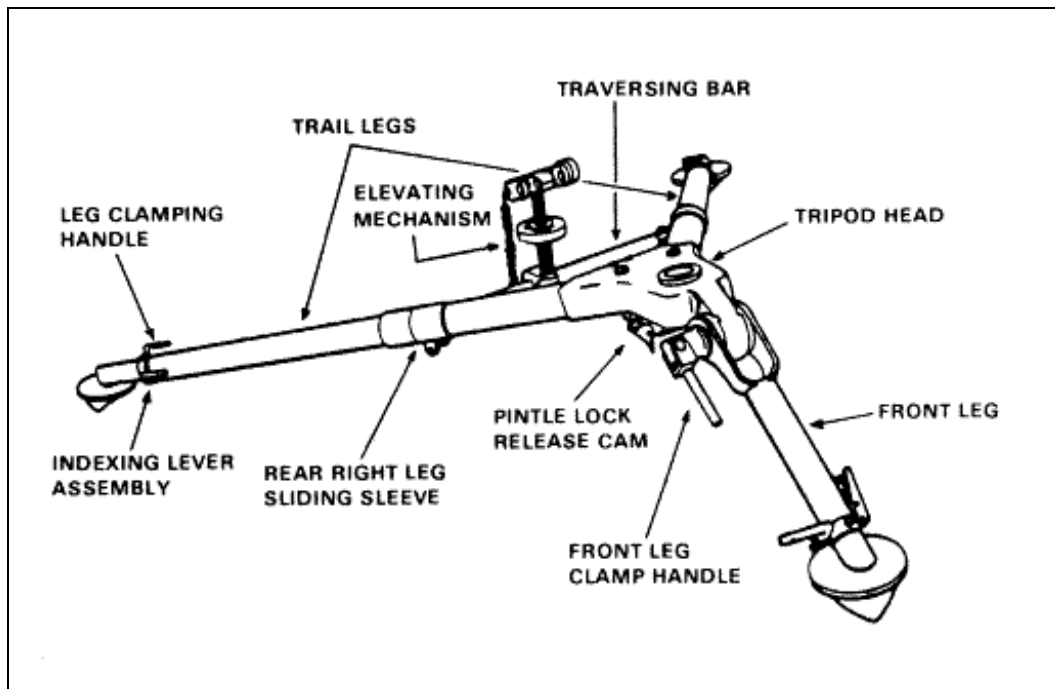

Figure 3-2. M3 tripod.
- a. Set the tripod trail legs by following these procedures (Figure 3-2):